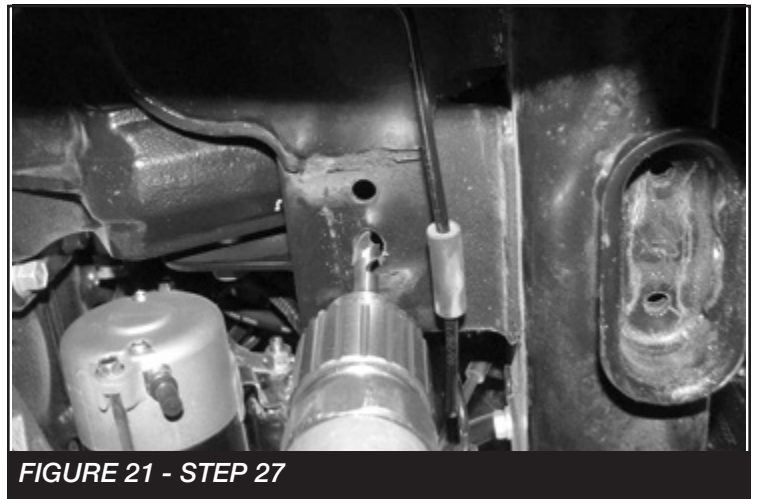

FIGURE 21 - STEP 27
27. Using a 1/2" drill bit, drill out the hole in the factory crossmember in-line with the factory bump stop mount. **SEE FIGURE 21**